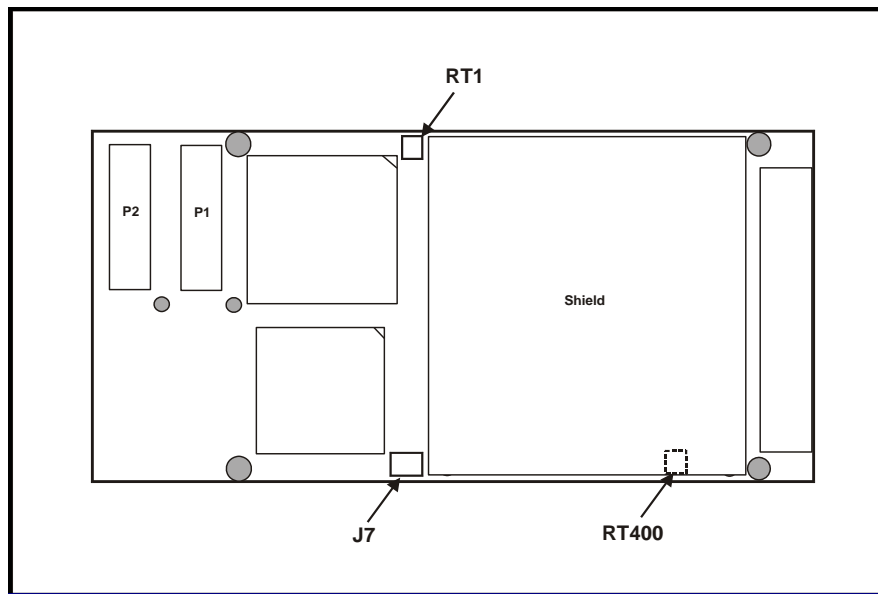

Figure 2.5-1. Calibration Adjustment Access
This procedure describes the verification and adjustment of the reference voltage and current source that ensure conformance to the product specification. Adjustment of the voltage reference or current source, if necessary, is performed with an internal trimmer that is accessible as shown in Figure 2.5-1. A right-angle 0.024-inch pin header provides side-access to the necessary test points.
1. Adjust the multimeter for **voltage measurement**, and connect the multimeter between the VTEST Pin-1 (+) and the REF RTN Pin-2 (-) in J7 at the edge of the board (Figure 2.5-1). Reverse the test leads if a negative voltage is indicated.